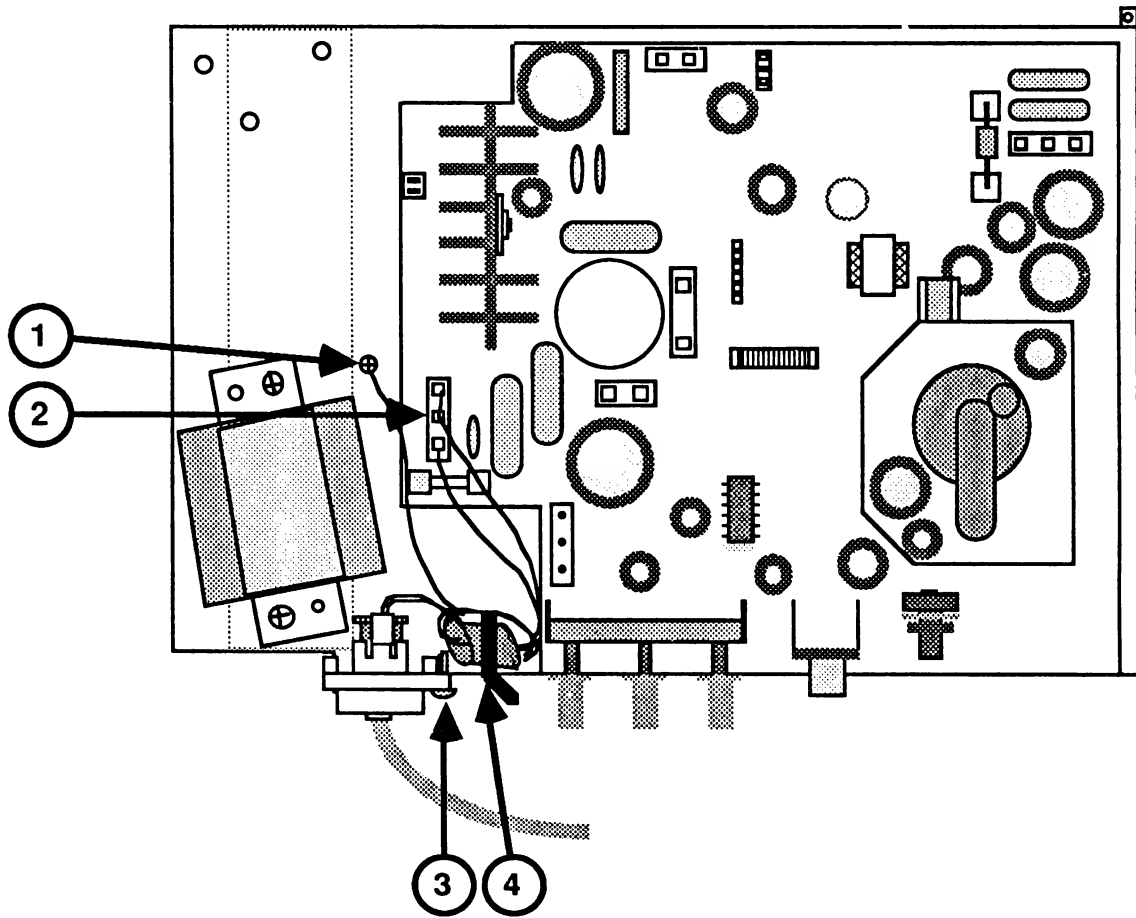

FIGURE 9
- a) Attach the ground wire to the metal chassis near the transformer (Figure 9, #1).
- b) Plug the connector into the logic board (Figure 9, #2).
- c) Position the plug in back edge of case, and fasten the screw (Figure 9, #3).
- d) Fasten a piece of cable tie around the ferrite core, through the hole in the back edge of the case (Figure 9, #4).